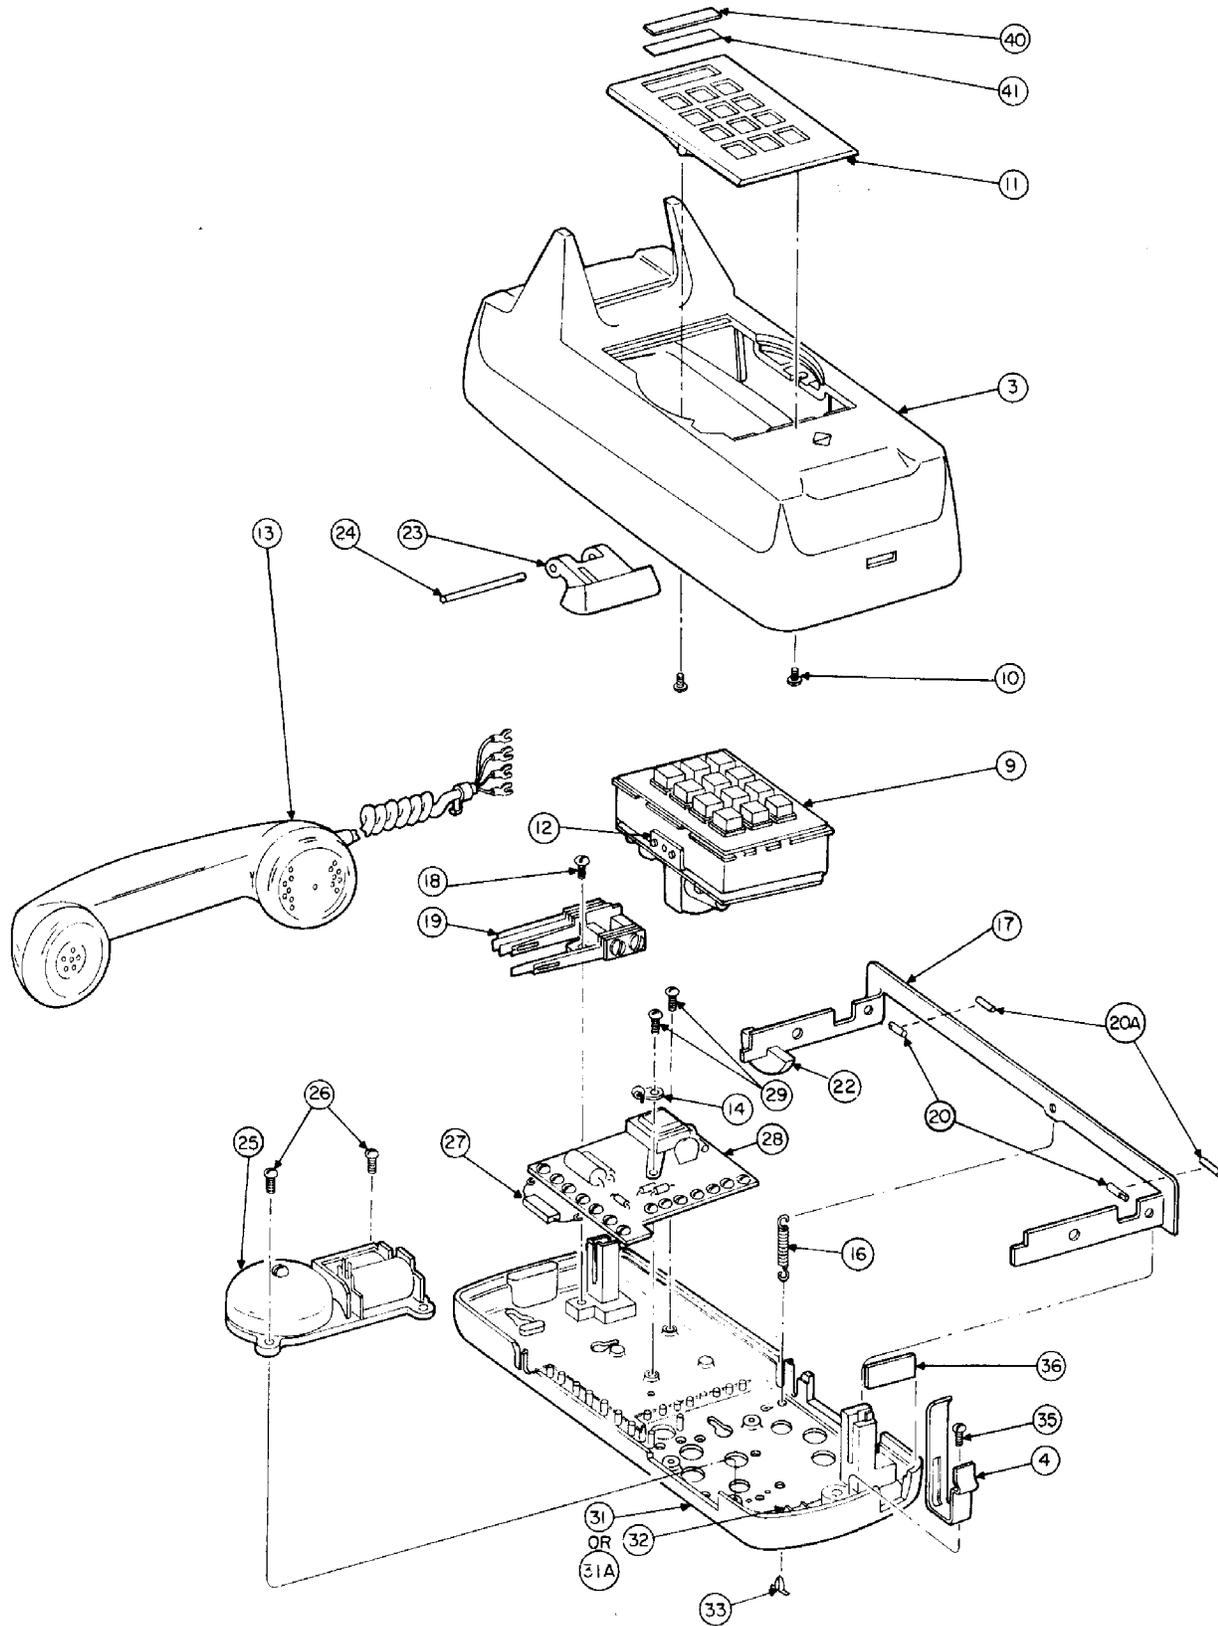
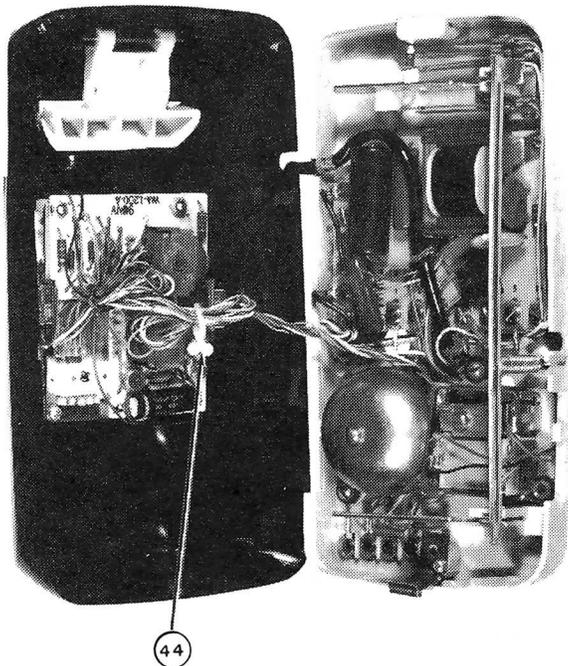

Figure 4. Exploded View of the Type 192A Wall Telephone.
Figure 6. Interior View of the Type 192A Telephone.
- (d) Remove the wire clip (item 44) that bundles the TCU leads together as shown in Figure 6.
3.05 To remove the wall telephone housing (item 3), refer to Figure 4, and proceed as follows:
- (a) Press in on the hook lock (item 4) located in the slot along the bottom surface of the telephone housing.
- (c) Lift the housing upward to disengage the tab located at the upper end of the housing from the slot in the baseplate (item 31 or 31a).
**CAUTION:** Use extreme care when removing the housing; the dial (or TCU) leads are still connected to the transmission network (item 28).
3.08 To remove an old-style TCU (item 9), refer to Figure 4 and proceed as follows:
- (a) Disconnect the TCU leads from the transmission network (item 28) terminals.
- (b) Remove the TCU mounting screws (item 10), and lift the TCU adapter plate (item 11) off the telephone housing.
3.09 To remove a Type 12C TCU (item 9), refer to Figure 4 and proceed as follows:
- (a) Disconnect the TCU leads from the transmission network (item 28) terminals and the baseplate terminals.
- (b) Remove the two TCU mounting screws (item 10). Lift the TCU adapter plate (item 11) and telephone housing off the TCU.